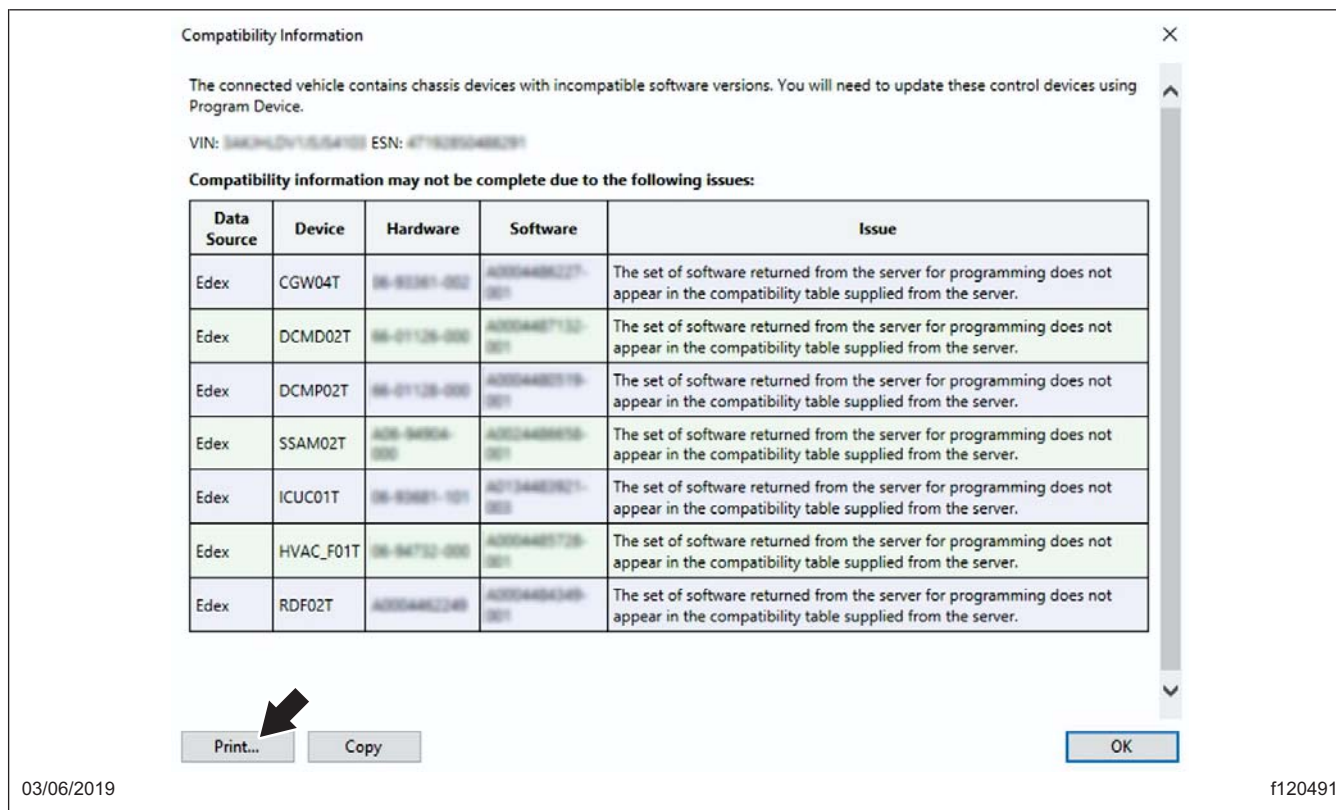

Fig. 4, Printing the List of Incompatible ECUs
12. Print or take a screen shot of the incompatible ECUs. See Fig. 4.